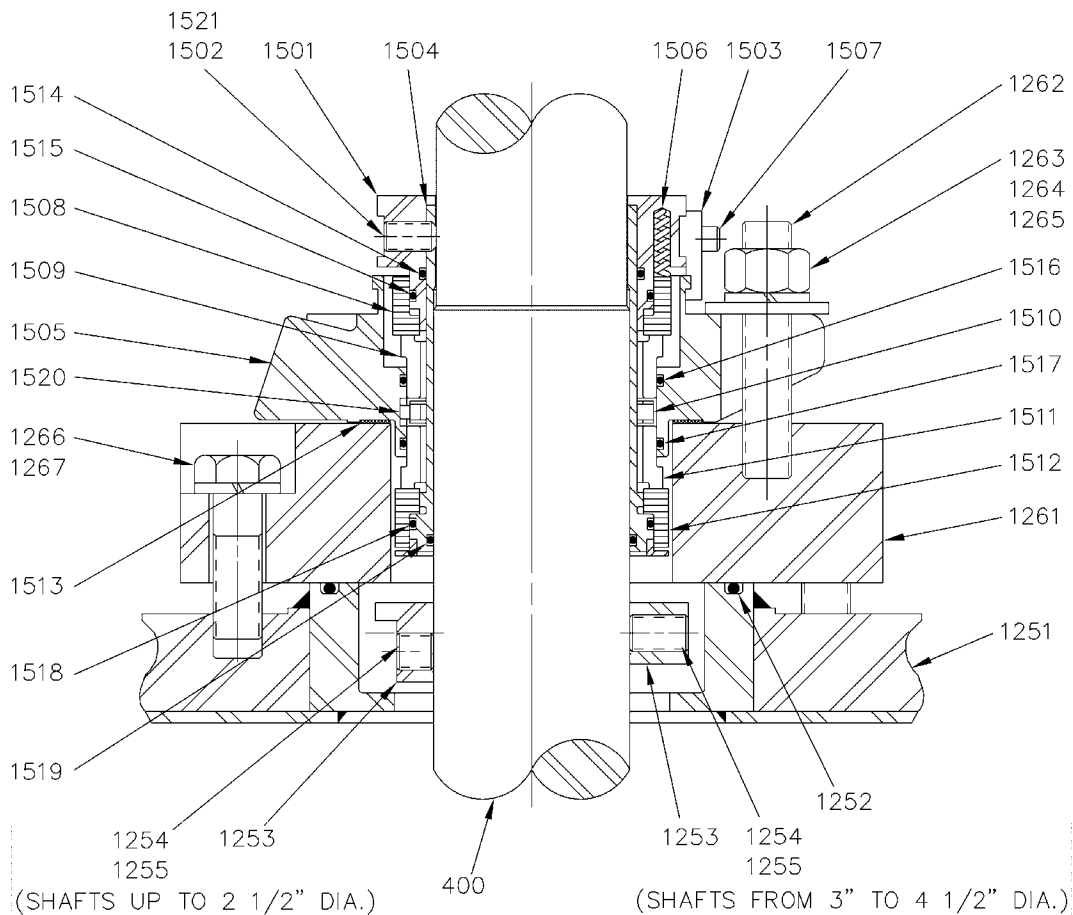
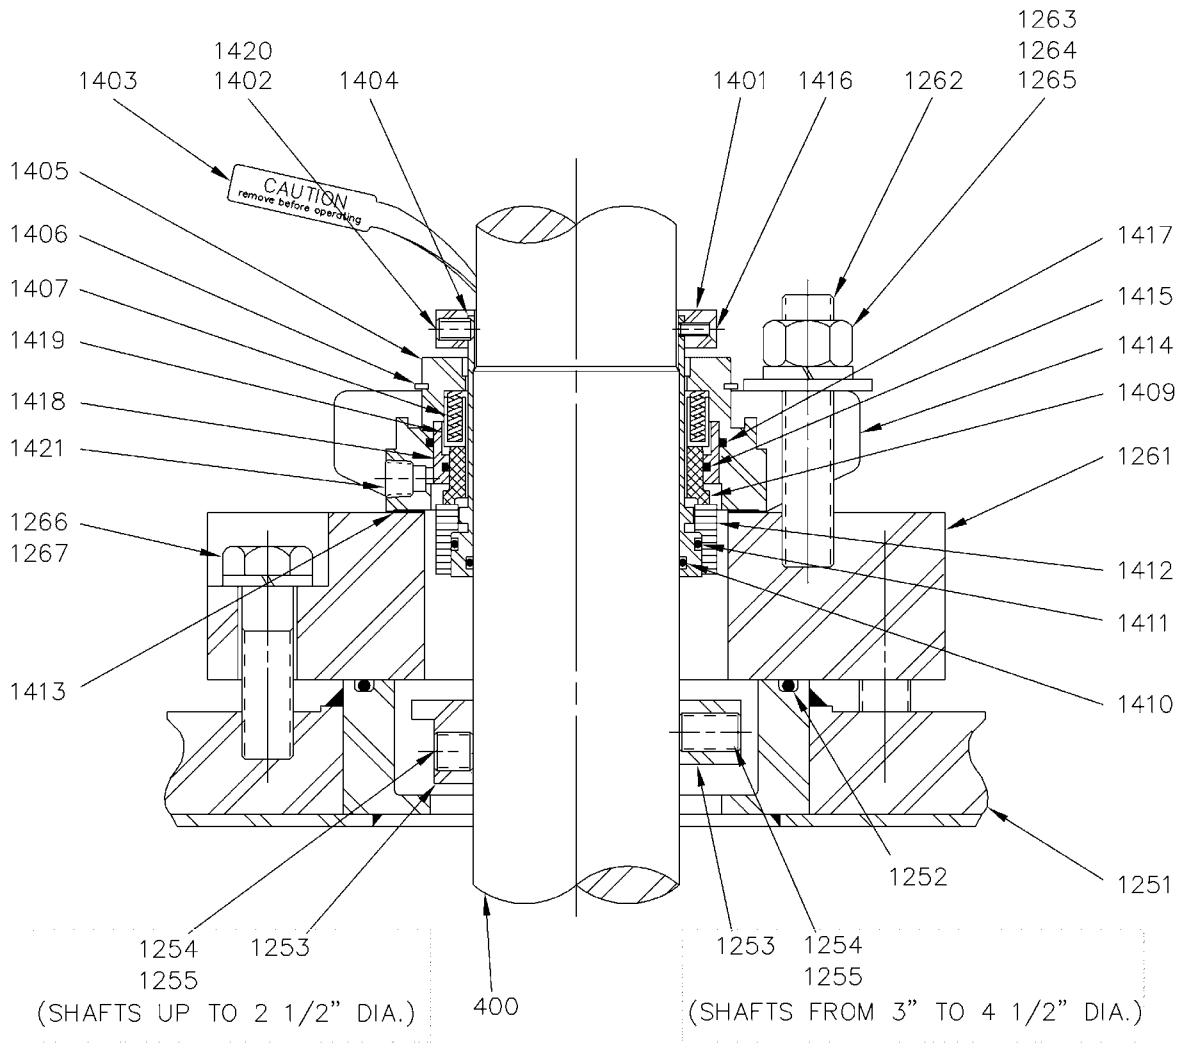

Figure 39. Double Mechanical Seal with Adapter Plate
Figure 40. Single Mechanical Seal with Adapter Plate
The mechanical seal (cartridge type) will require periodic replacement of wearing parts. Due to ease of replacement of the seal cartridge, it is preferable to remove the old seal cartridge and replace it with a new or rebuilt cartridge. (Refer to Figure 39, page 79 or Figure 40, page 80)
8. To disassemble the cartridge mechanical seal, install three centering clips [1503] and back off all setscrews [1502, 1521] so they disengage from the sleeve. Refer to Figure 40, page 79.